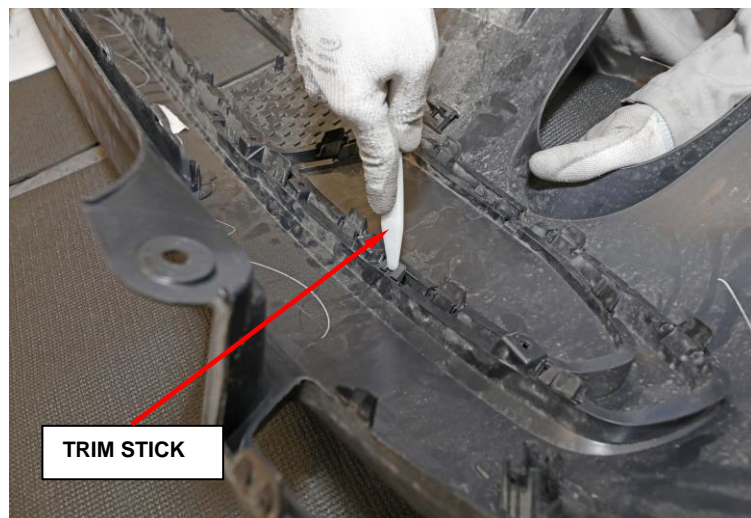

Figure 19 – Closeout Panel Removal
8. Remove the left, right, and center closeout panels at the bottom of the fascia. Use a trim stick to aid in the release of the barbed fasteners (Figure 19).